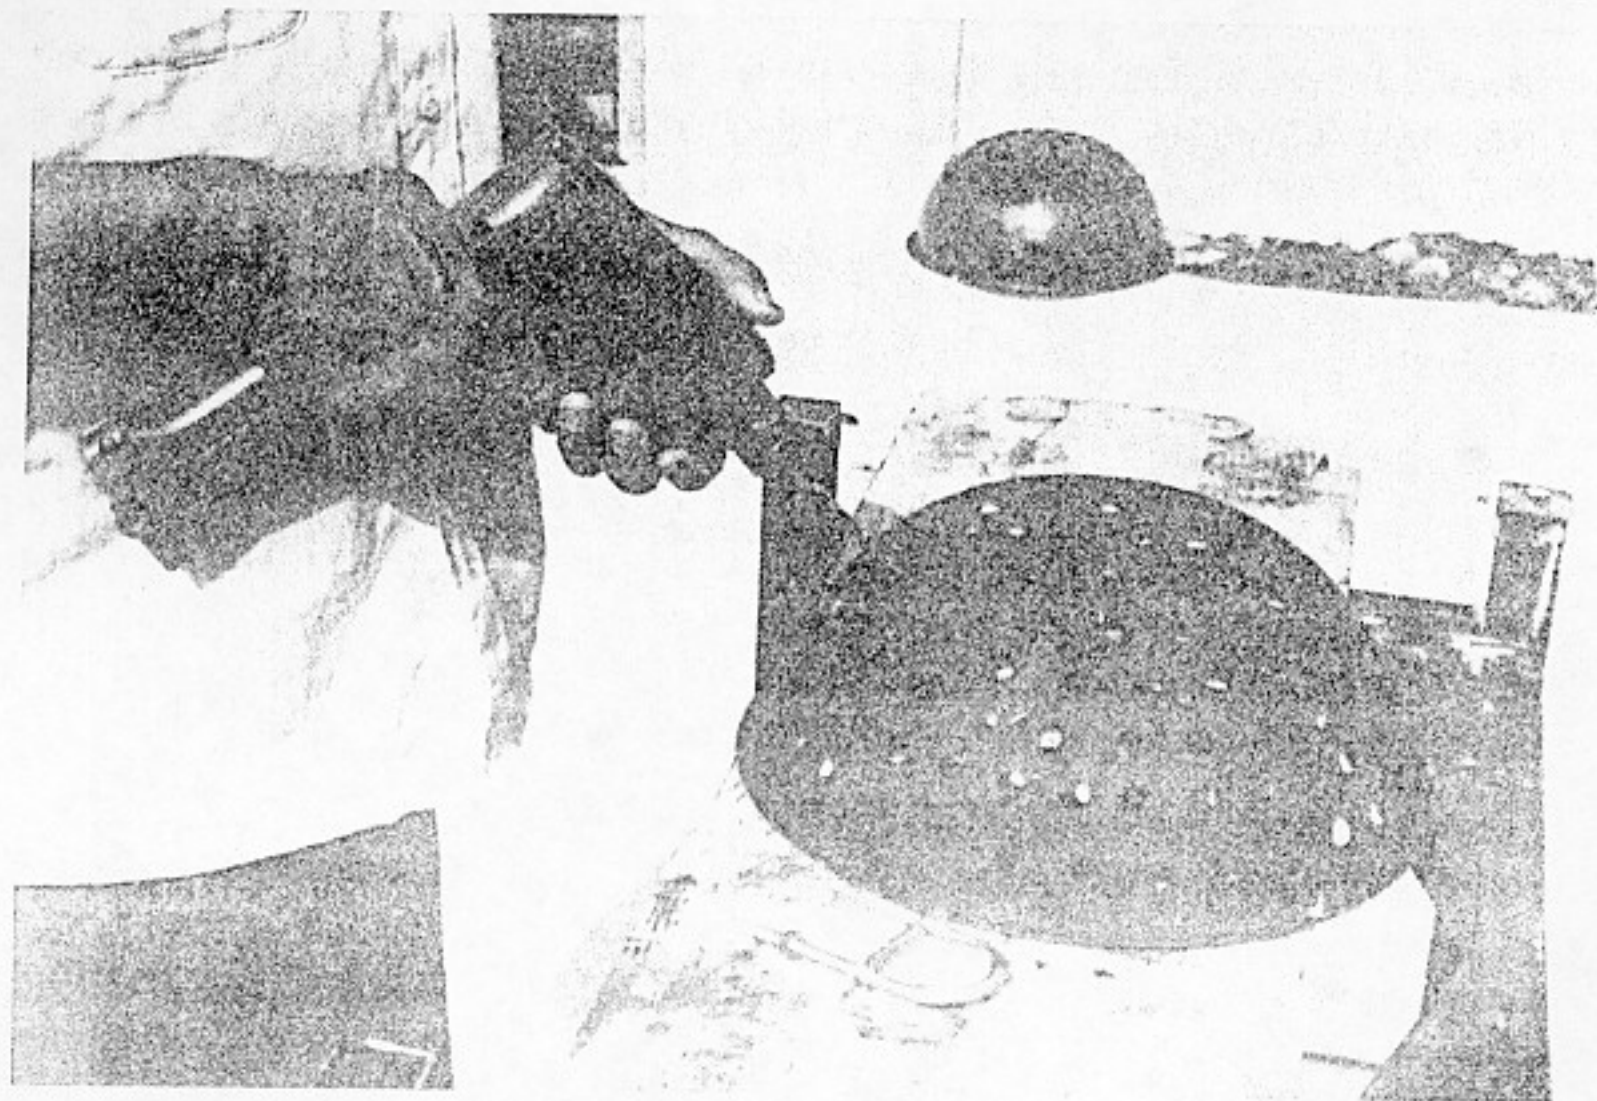

Fig. 2-4. Drilling holes into the stainless steel mixing bowl to be used for the grate. Note the U-bolt in the foreground.
3. The grate (Item 4A) should be made from a stainless steel mixing bowl or colander. Approximately 125 holes with diameters of 1/2 in. should be drilled in the bottom and up the sides of the mixing bowl; see Fig. 2-4. A U-bolt (Item 5A) should be welded horizontally to the side of the grate, 2 in. from its bottom. This U-bolt will be interlocked with the shaker mechanism (Item 12A) in a later step.